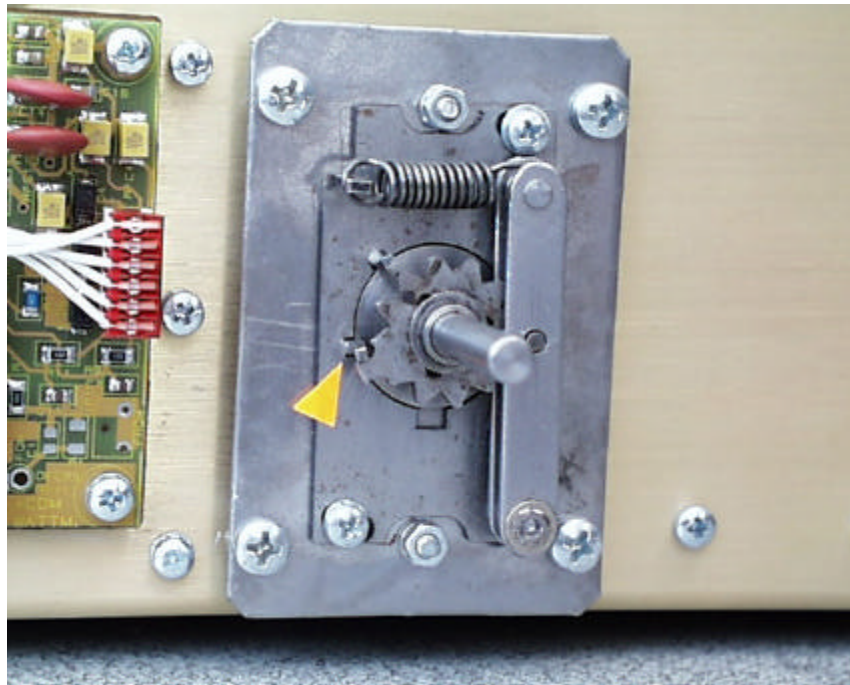

Figure 1. Mechanical block on 24-28 and 50MHz Bands
- The mechanical block system ensures that three top frequency bands (namely 24-28 and 50 MHz) cannot be selected. This is achieved by mechanical means. A solid steel lug prevents the band switch from being fixed on two top band positions. As seen on the photo below (Figure 1), moving the band switch axis clockwise is limited to the steel lug. It is pointed with an yellow arrow on the photo only but not in the construction.